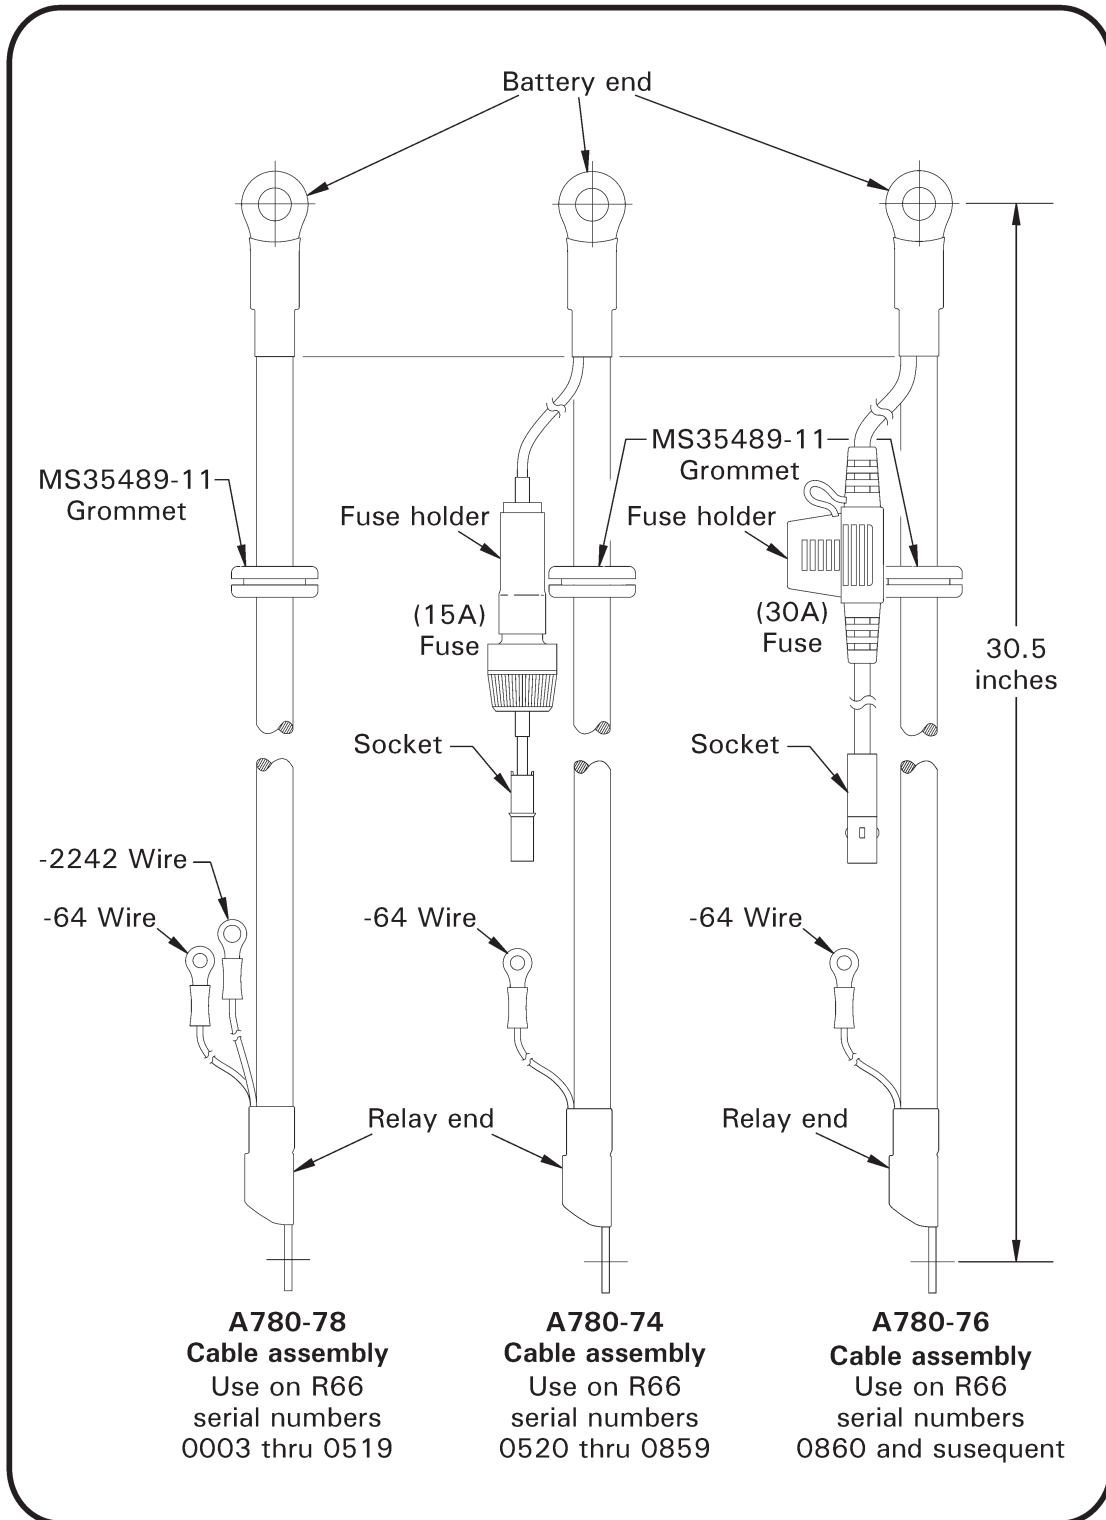

FIGURE 4 Replacement A780 battery power cable assemblies
10. Refer to Figure 4. Position (1) MS35489-11 grommet on battery-end of new A780-74, -76, or -78 cable assembly, as appropriate to helicopter serial number. Grommet must seat on cable only and not on fuse holder wiring.